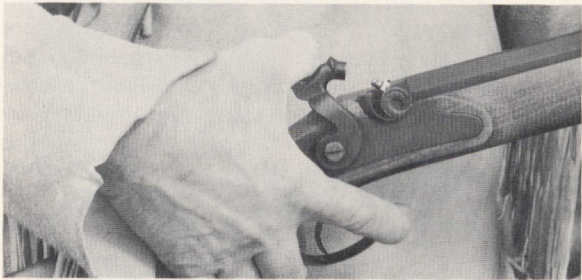

Figure 4
2. Because the hammer of the Jonathan Browning Mountain Rifle is smooth we recommend using the middle part of the thumb above the joint when cocking the hammer (**Figure 4**). To place the hammer in the half cock position, start with the hammer down, resting on the nipple. With your finger off the trigger, move the hammer rearward in a cocking motion until an audible click is heard. To place the hammer in the full cock position continue cocking the hammer until a second audible click is heard. The hammer is now fully cocked in its most rearward position and is ready to fire.